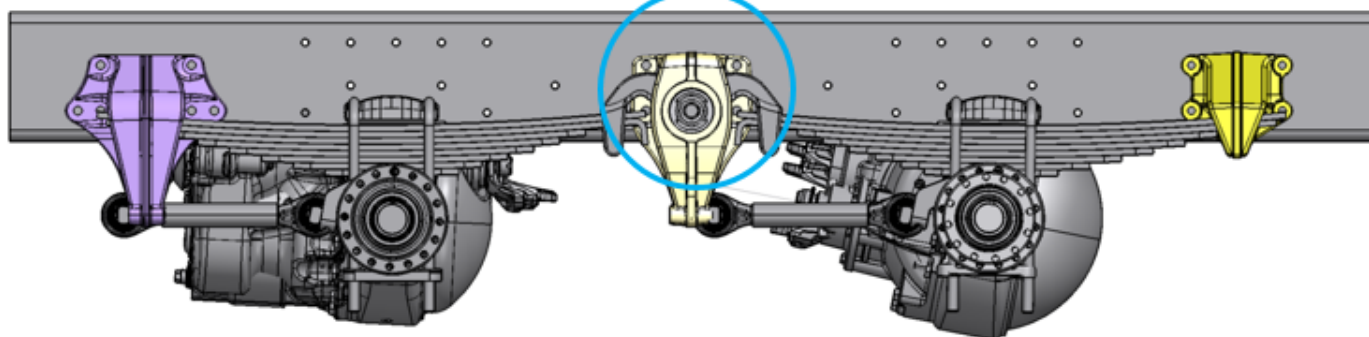

Fig. 4
- 2) If the vehicle has a tandem rear axle, the equalizer brackets need to be removed (see Fig 4).
- 7) For tandem axle suspensions, install the 15-15519-000 spacer plates between the equalizer brackets and the LH and RH frame rails. The 15-15519-000 spacer will need 2 additional 20.6mm diameter holes drilled for correct fit-up (see Fig 4)